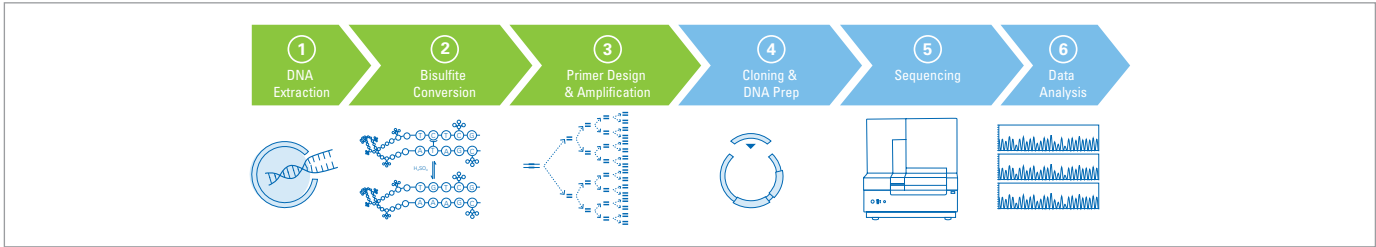

Figure 6. Bisulfite Specific Cloning-based Sequencing.
3. Bisulfite Specific Cloning-based Sequencing (Figure 6)
In this application, a population of fragments is segregated by cloning, providing quantitative results. The first 3 steps of the workflow in Figure 6 are described in the general workflow above. This is followed by sequencing and separation of single samples/clones. Analysis can determine the percentage of methylation observed for specific CpG dinucleotides in a candidate region. Figure 7 provides quantitative results to understand the percentage of methylation per CpG dinucleotide in mixed samples.